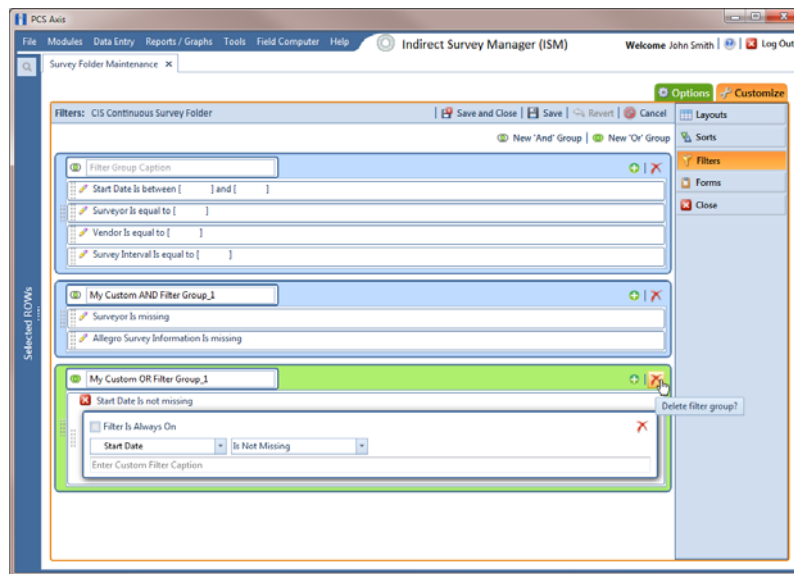

Figure 6-23. Filters
- 8 To delete a filter in a filter group, click the filter's  delete button (Figure 6-23). Then click  **OK** when the *Delete* message displays.
- 12 Click the  close button to close the filter's property settings group box (Figure 6-23, page 209).